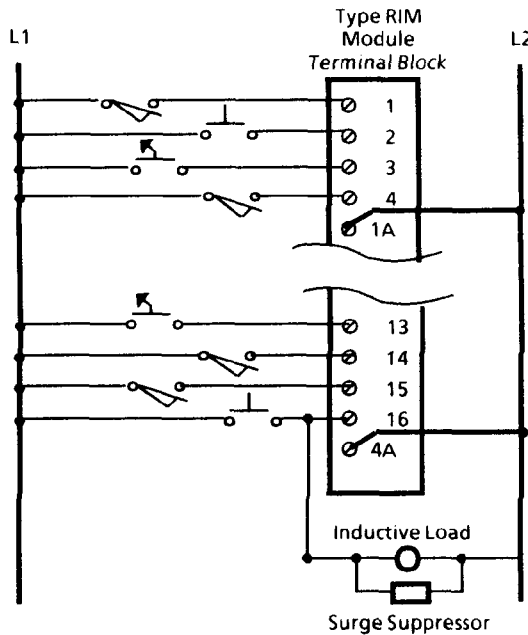

Figure 1 - Typical Wiring
Field input devices are wired to the terminal block on the front of the input module. Figure 1 illustrates the typical wiring of the RIM-101 input module.
- In those applications where an inductive load such as a motor starter or solenoid is wired in parallel with a Type RIM-101 Input Module, a suppressor must be installed as indicated in Figure 1. A typical suppressor for 120VAC operation consists of a 0.5 mfd. 400 volt capacitor with a 220 ohm resistor in series.
- When using the DISPLAY module of the Class 8010 Type SPR-2XX and SPR-3XX CRT Programmers or SY/MATE\*, all contacts and coils associated with register slot mounted digital I/O modules will be shown with the prefix (R) in front of the address. These (R) designated contacts and coils are associated with actual inputs and outputs and should not be confused with contacts and coils associated with internal relays.
- \*Note:** When using SYM-323 Series B and SYM-324 Series A or later, all contact and coils associated with digital I/O modules will be shown with the prefix (I) in format of the address if it is an input or (O) if it is an output or contact of an external output.